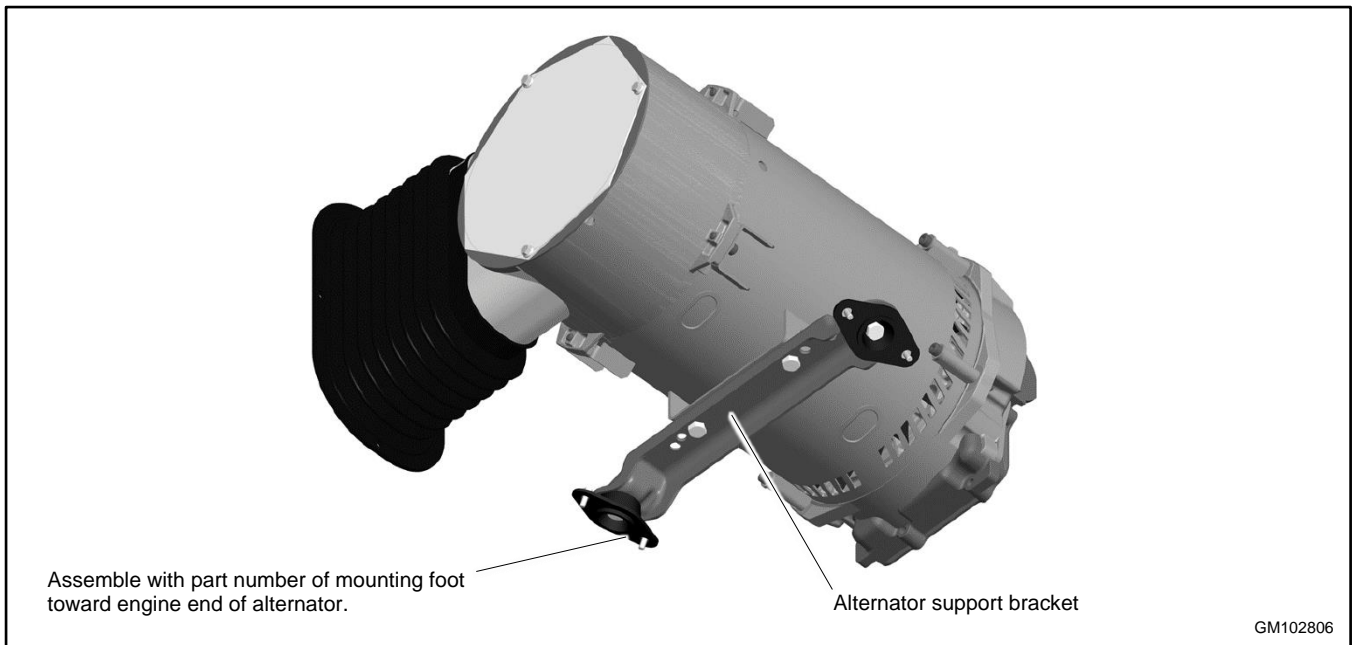

Figure 131 Alternator Support Bracket
- a. Re-attach the alternator support bracket to the alternator shell. Assemble with the part number of the mounting foot toward the engine end of alternator. See Figure 131.